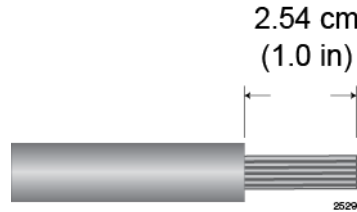

Figure 145. Stripping Solid or Stranded DC Power Wires
1. Prepare adequate lengths of two solid or stranded 8 AWG DC power wires by stripping them as shown in Figure 145.